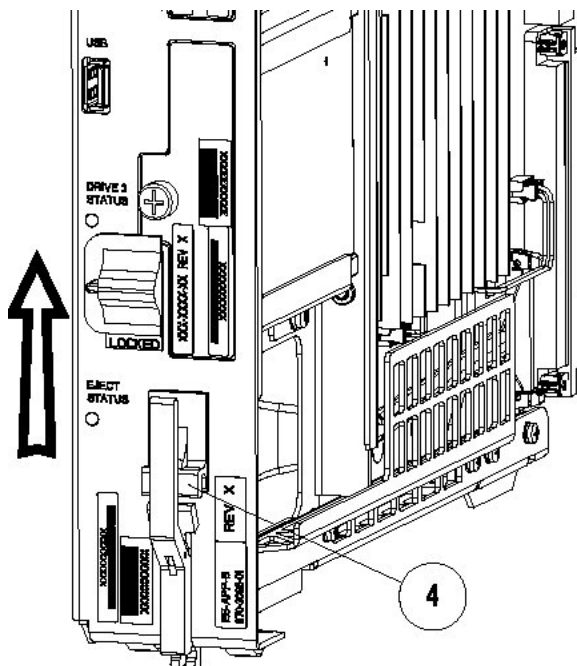

Figure 28: E5-APP-B Card Eject Hardware Switch, UNLOCKED
1. On the E5-APP-B card, slide the Ejector switch (4) up to the UNLOCKED position (see Figure 28: E5-APP-B Card Eject Hardware Switch, UNLOCKED).